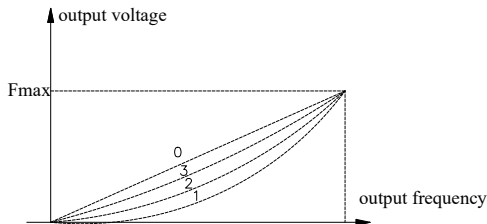

Fig. 6-11 V/F curve
- 0: linear voltage/frequency mode (constant torque load), shown as curve 0 in Fig. 6-11;
- 1: Square voltage/frequency mode, shown as curve 1 in Fig. 6-11;
- 2: 1.5 times torque/frequency mode, shown as curve 2 in Fig. 6-11;
- 3: 1.2 times torque/frequency mode, shown as curve 3 in Fig. 6-11;